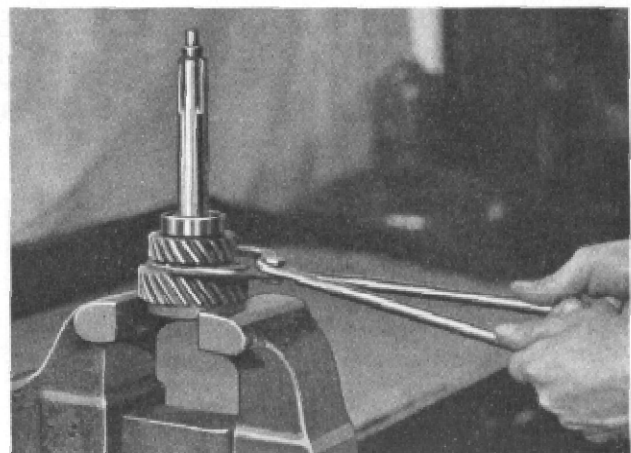

Figure 5
Remove the 7 main shaft thrust balls (20) and the 26 main shaft needle rollers (27). Place drive gear assembly in vise and insert one jaw of the lock ring remover J-449 through the opening milled in the gear, gripping the lock or retaining ring (24) and placing the opposite jaw just above the lock ring as shown in Fig. 5. Compress the lock ring remover and lift one side of the lock ring out of the groove, then, with a blunt punch, tap the other side of the lock ring and it will snap out. Complete disassembling operation by taking gears apart and removing front and rear thrust washers (22 and 23).